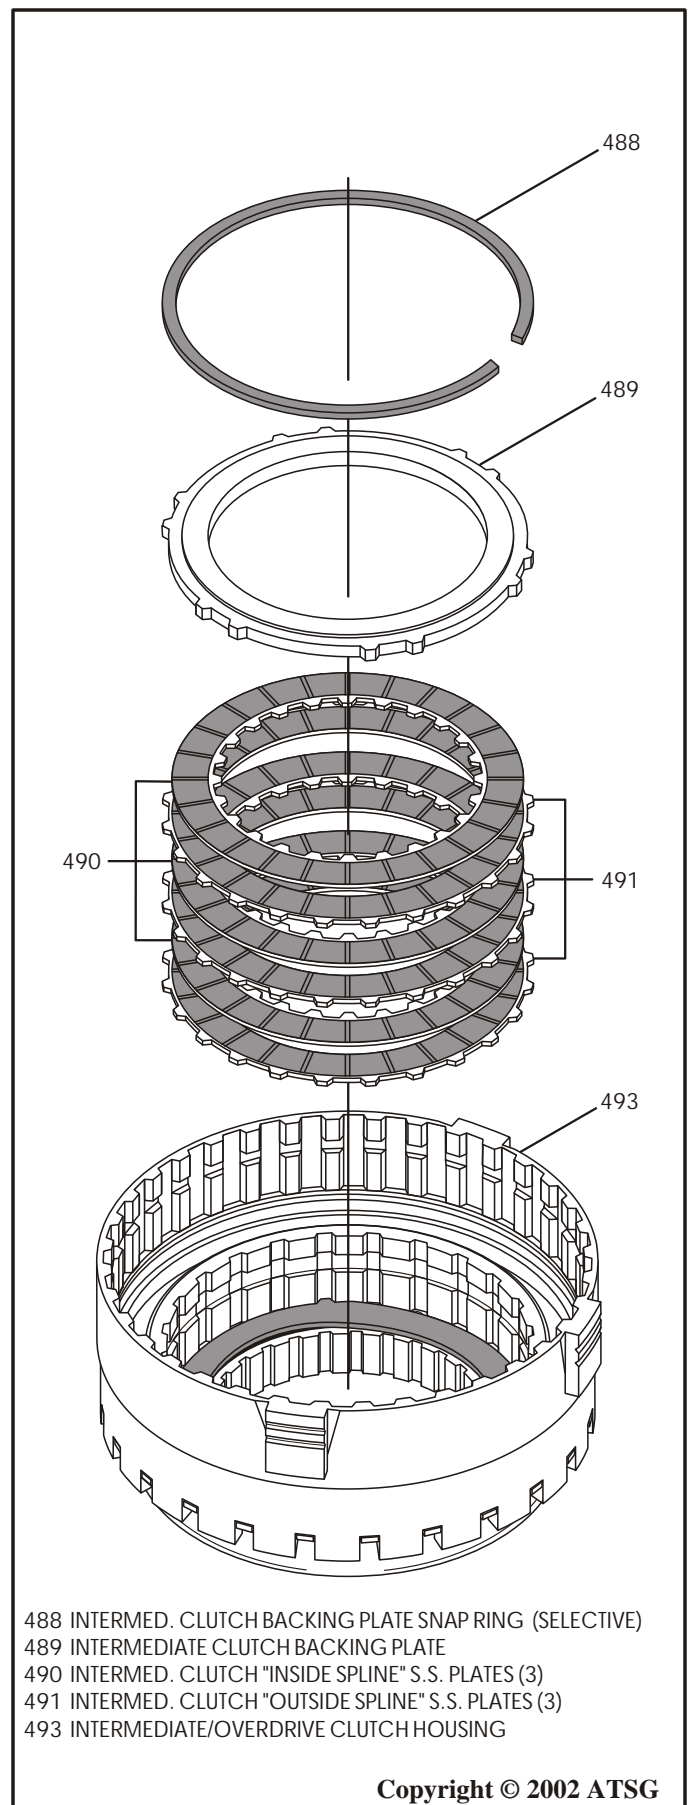

Figure 119
9. Install the intermediate clutch "single sided" plates beginning with an outside spline plate first and alternating with inside spline plates until you have installed 3 of each, as shown in Figure 119.
**Note:** *Lined side must be installed facing up as shown in Figure 119. Clutch plate amounts may vary by model.*
10. Install the intermediate clutch backing plate, as shown in Figure 119.
11. Install the "Selective" backing plate snap ring as shown in Figure 119, and ensure that snap ring is fully seated against the top of snap ring groove in the housing.